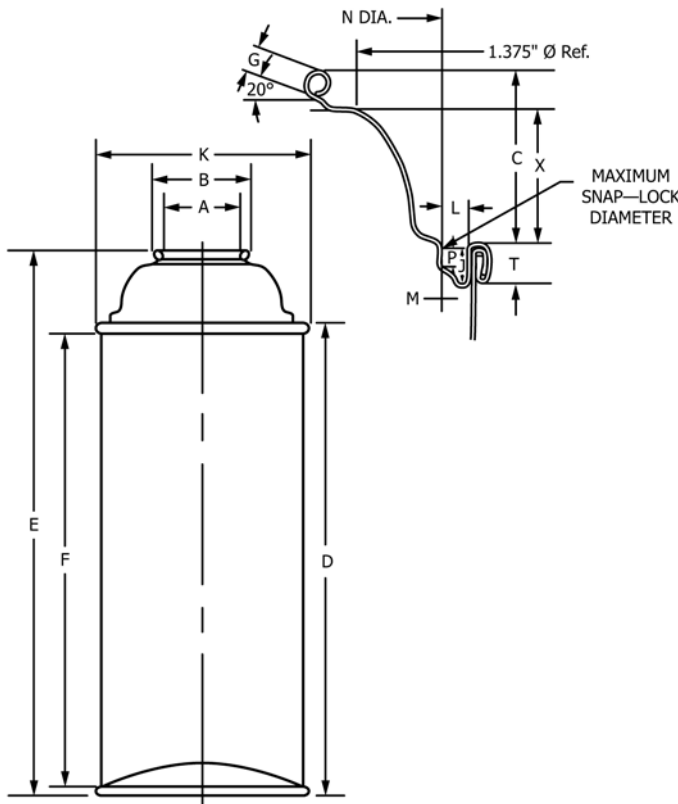
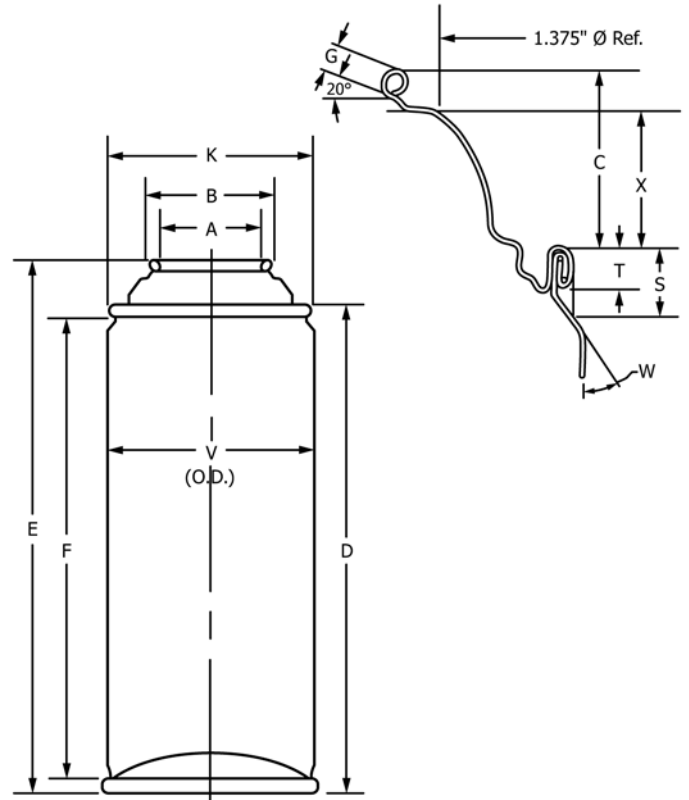

FIG. 1 Straight-Wall Aerosol Can
FIG. 2 Necked-In Aerosol Can
2.1 Specific dimensions used in this guide are described as follows and correspond to those associated with the cross-sectional drawings of straight-wall and necked-in aerosol cans (**Fig. 1** and **Fig. 2**, respectively).
3.3 In all tables, the guidelines refer to **Fig. 1** and **Fig. 2**, which illustrate the dimensions. **Table 3** and **Table 4** give straight-wall aerosol can height and curl dimensions. **Table 5** and **Table 6** give comparable information for necked-in aerosol cans.